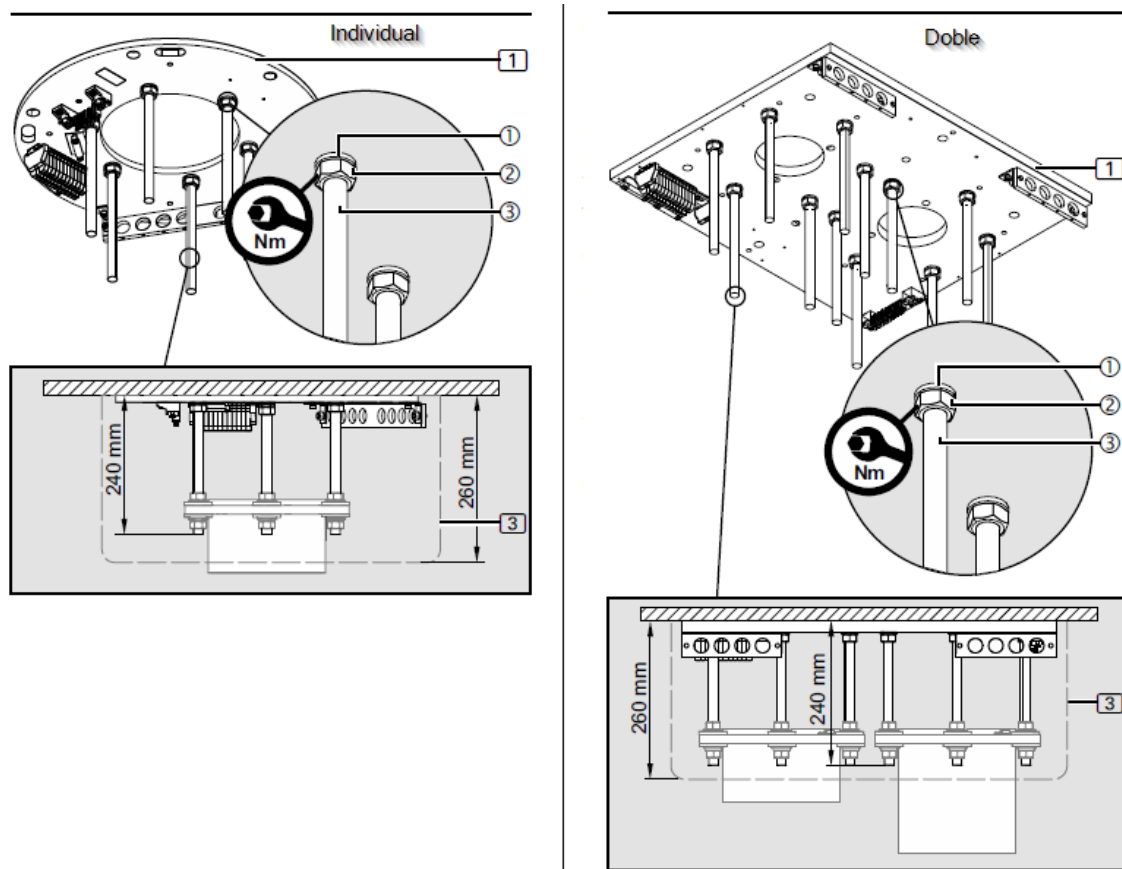

Fig. 14 Installation of interface plate without false ceiling
- The roof trim (3) will later be mounted flush with the roof and covers the roof pipe flange.
- For the ceiling trim (3), which has a height of 260 mm, the 6/12 M16 x 330 mm threaded bolts (3) must be cut to 240 mm (max. 245 only for COLUMN ROTATION). See Fig. 14.
- Lightly deburr the M16 x 330 mm threaded bolts (1) to ensure maximum thread engagement in the interface plate (1).
- Thread 1 M16 hex nut (2) each onto the M16 threaded bolts (3) and then fit 1 spring washer (1) each.